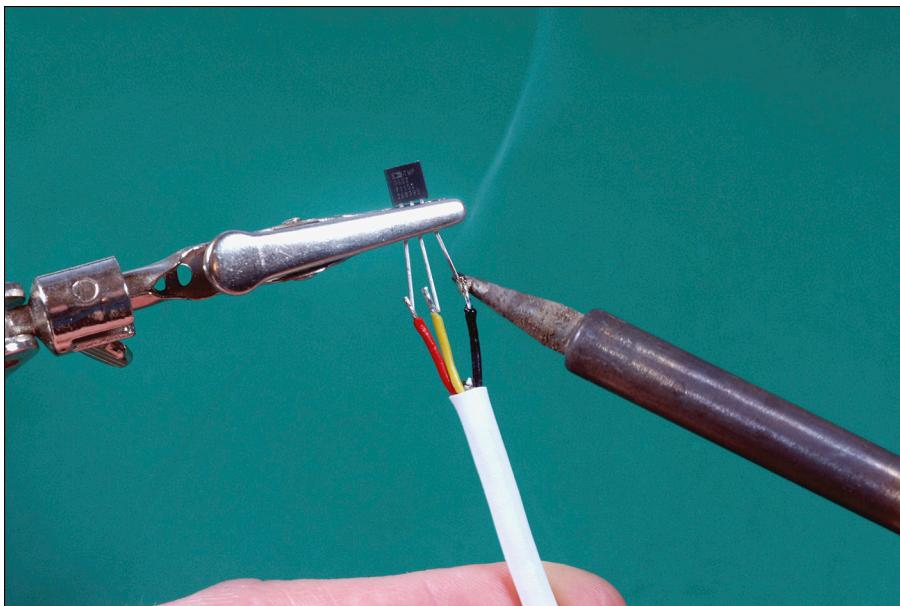

Figure 12-5:
- 4. Splay the legs of your TMP36 and solder your three wires to its legs, as shown in Figure 12-5. With the flat face of the sensor toward you, the order to solder, from left to right, is: positive wire, signal wire, negative wire.**